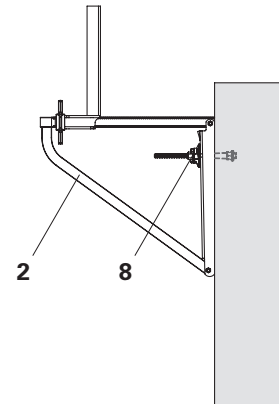

Fig. A2.03
- Fasten Formwork Bracket-2 (**2**) with Wingnut Counterplate DW 15 (**8**) and firmly tighten Wingnut Counterplate DW 15 (**8**). (Fig. A2.03)